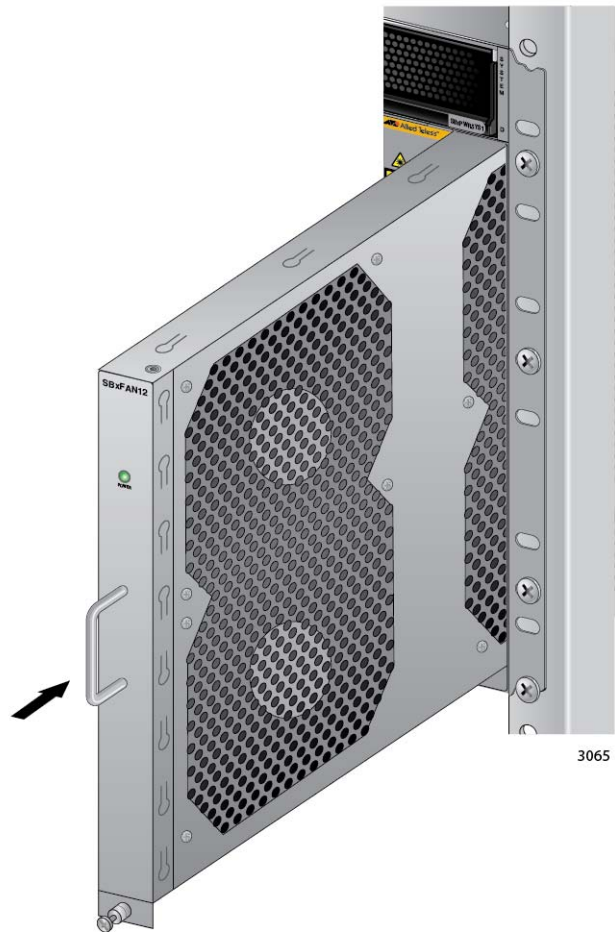

Figure 172. Installing a New AT-SBxFAN12 Fan Module
1. Orient the new module with the LED and module name on top and carefully slide the new module into the slot in the chassis. Refer to Figure 172 on page 266.